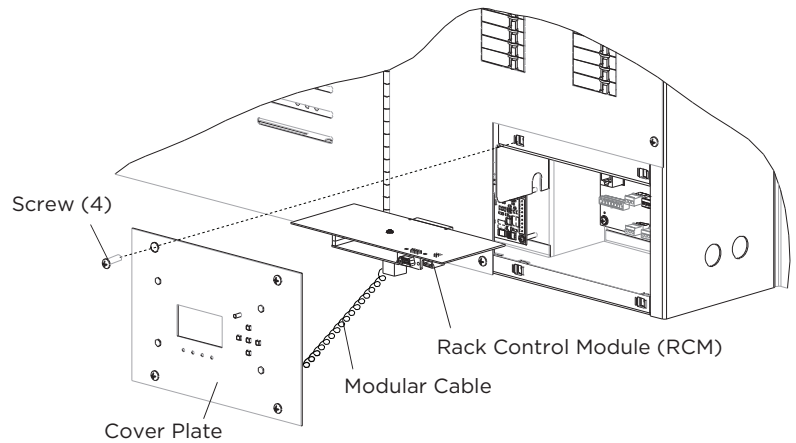

FIGURE 9. INSTALLING RACK CONTROL MODULE
- Step 1. At required panel, remove control module cover plate by removing four screws. **(Figure 9).**